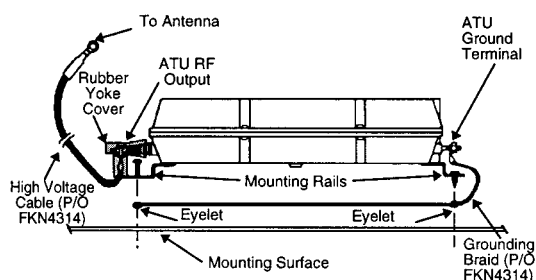

Figure 2-3. FKN4314A High Voltage Cable Attachment
Step 1. Attach the high voltage cable conductor to the ATU RF output (see Figure 2-3). While holding the high voltage cable, push the rubber yoke cover until it slips on the yoke.
Step 2. Attach the grounding braid of the high voltage cable kit to the ATU ground terminal (see Figure 2-3).
Step 3. Route the grounding braid between the ATU mounting rails and the mounting surface. Align the grounding braid eyelets with the holes in the mounting rails and mount the ATU using the tapping screws provided (see Figure 2-3).
Step 2. Attach the ground braid of the high voltage cable kit to the ATU ground terminal (see Figure 2-3).